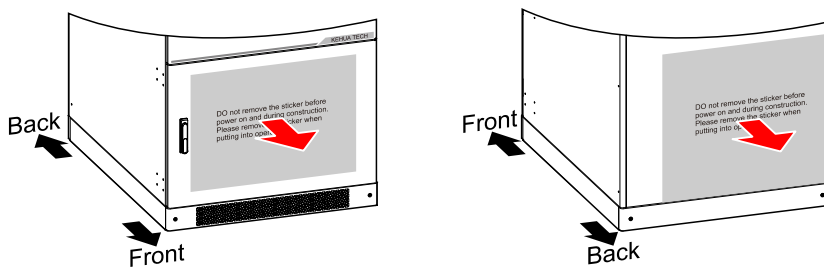

Figure6-1 Remove the stickers
- When first use, before startup, please remove the stickers on the front and rear air inlet and outlet holes (as shown in Figure6-1).